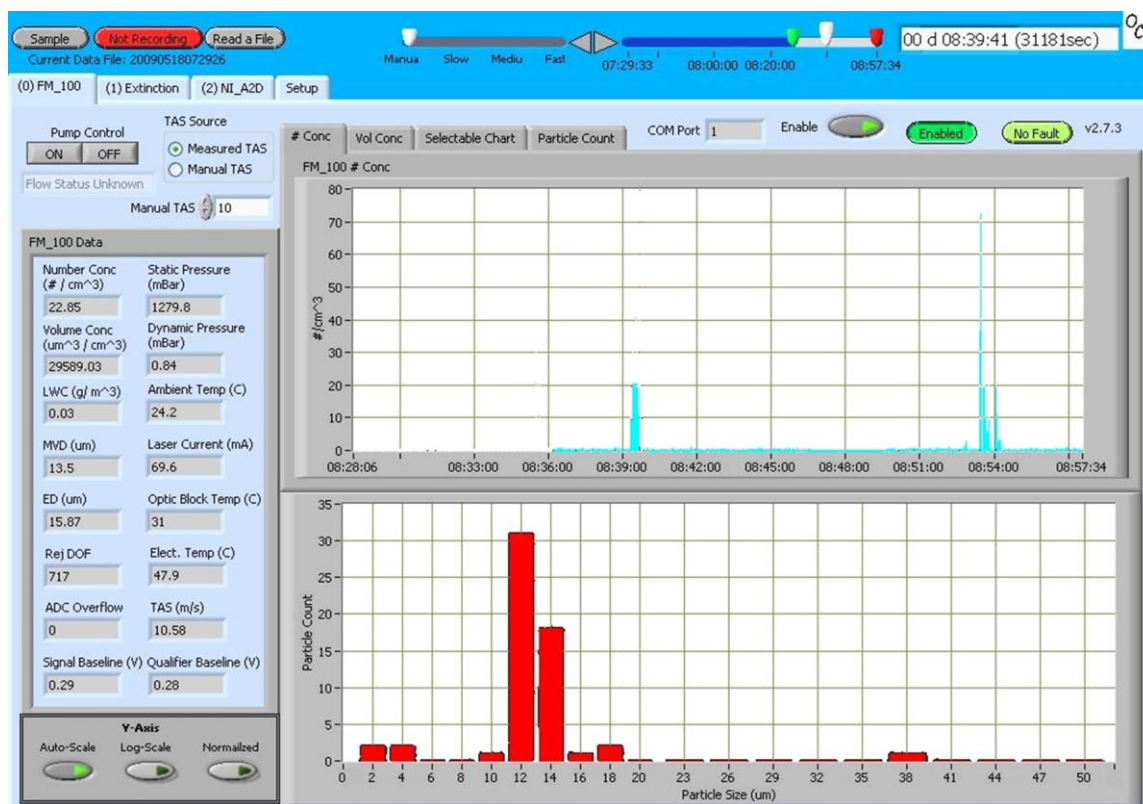
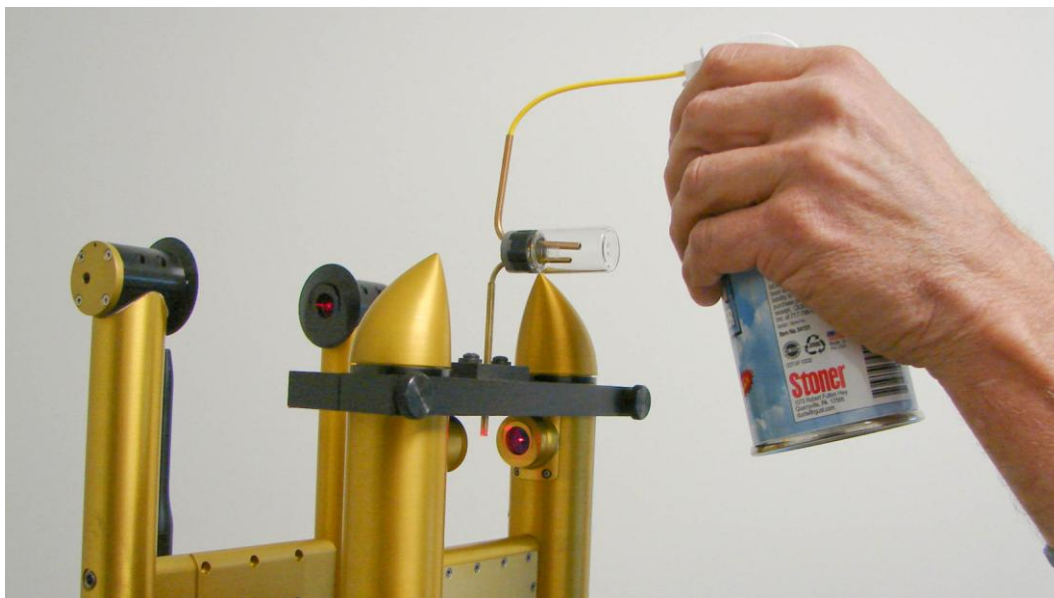

Figure 6: Display of Calibration Test Results. Note the definite peak in the 12-14 μm particle range.
Figure 14: Releasing Glass Beads into the CDP. Note this picture is of a CDP attached to a CCP; operation is the same for stand-alone CDPs.
Calibration of the CDP is typically verified with precision glass beads. Glass beads of a known size are injected into the sample area, and the instrument sizes them. The resulting particle-size histogram should show a definite peak at a size slightly smaller than the size of the glass beads. DMT instruments are calibrated to measure water particles, and water and glass have different refractive indexes. As a result, the particle sizes measured by the instrument will be about 80% of the actual size of the glass beads. The conversion table in Appendix B provides corresponding water droplet sizes for given glass bead sizes. The water-droplet size indicates where the number of particles detected during calibration testing should peak. For instance, if 17- μm glass beads are used for testing, the particles detected by the instrument should peak at about 14 μm . See Figure 6.
- 8.) Connect the tube on the calibration fixture's far end to the dispenser, and connect the dispenser to the duster. (See Figure 14.) *Gently* press the duster so glass beads are released into the instrument. A very small amount of pressure on the trigger of the duster can will suffice. The calibration should be done in a short burst about 1 second or less. There will be a delay of 1-3 seconds before the data shows on the computer screen. (See Figure 6.) The total number of particle counts, not concentration, should be 30-200. This is summed across all of the bins.